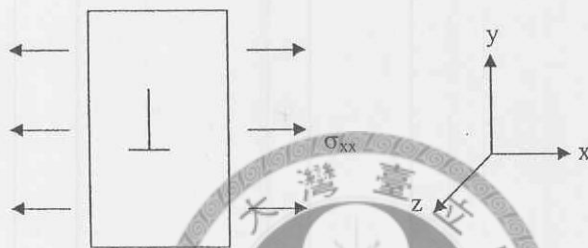

Figure 1
- 1) Figure 1 illustrates a material containing an edge dislocation with the dislocation line along the z axis and the Burgers vector along the x axis. If a stress σ_{xx} is applied, show that the force acting on the edge dislocation will cause the dislocation move perpendicular to the slip plane, i.e., climb process, then as the dislocation moves, determine the vacancy is created or annihilated. (5%)